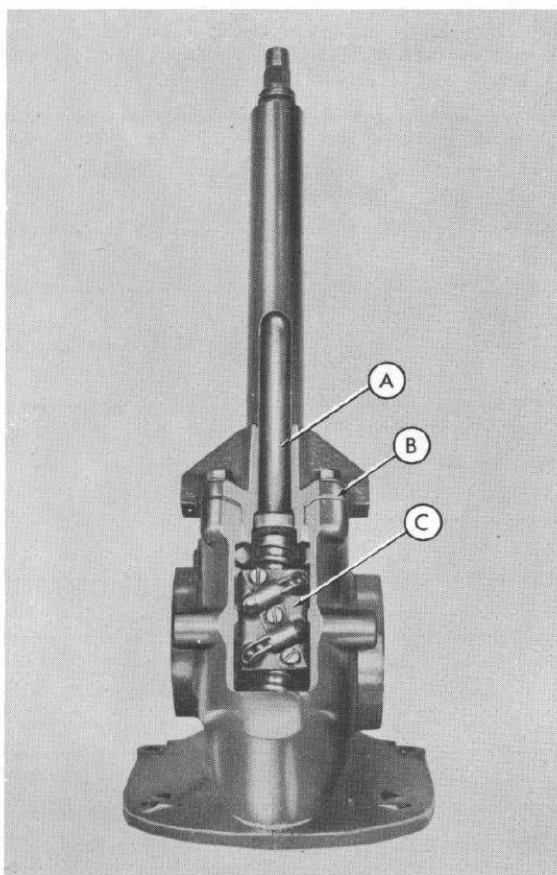

Fig. 4
Step 2—Install the shaft and ball nut assembly with the nut (C-Figure 4) positioned at approximately the center of the worm.
Step 4—Position the shims (B-Figure 4) and install the steering tube and cover assembly.
Step 7—Adjust the wormshaft (A-Figure 4) end play (bearing adjustment).
a. Adjust the bearings to a slight pre-load by removing shims (B-Figure 4) from the top face of the gear housing.